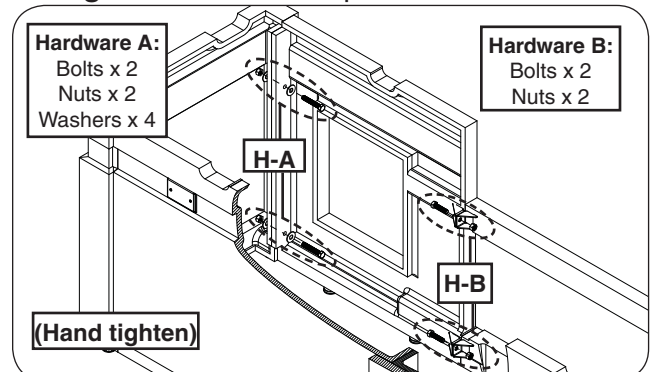
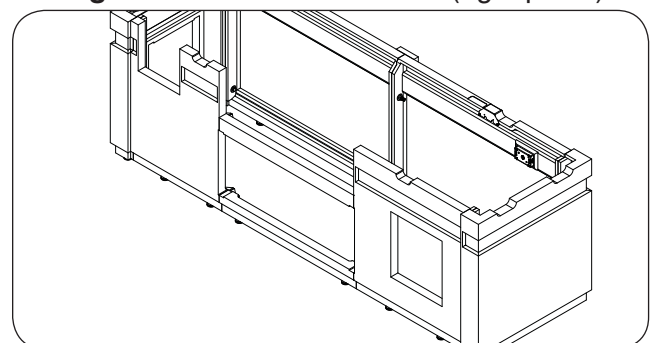

Fig. 10-4 Assemble front wall (right piece)
Fig. 10-5 Front wall assembled
4. Orient the front wall right piece and repeat the hardware installation process to fasten it to the right side wall (hardware kit A), and then to the beams (hardware kit B). Hand tighten only. See Fig. 10-4 and Fig. 10-5.